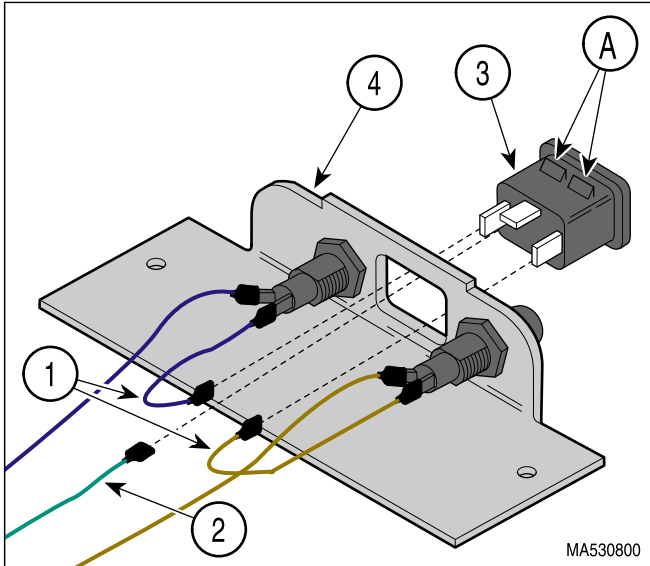

Figure 4-49. AC Receptacle Removal / Installation
- (4) Lay table on its side.
- (5) Remove two screws (9) and power inlet bracket (10) from bottom of base casting (3).
- (6) Tag and disconnect two wires (1, Figure 4-49) and ground wire (2) from terminals of AC receptacle (3).
- (7) Disconnect two wires (1, Figure 4-49) and ground wire (2) from AC receptacle (3).
- (8) Depress tabs (A); then remove AC receptacle (3) from power inlet bracket (4).